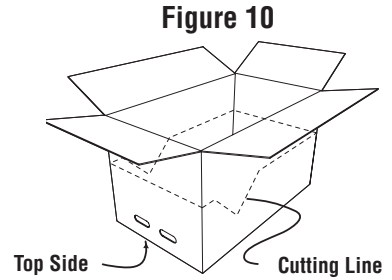

Figure 10
1. Place carton upside down. See Figure 10.